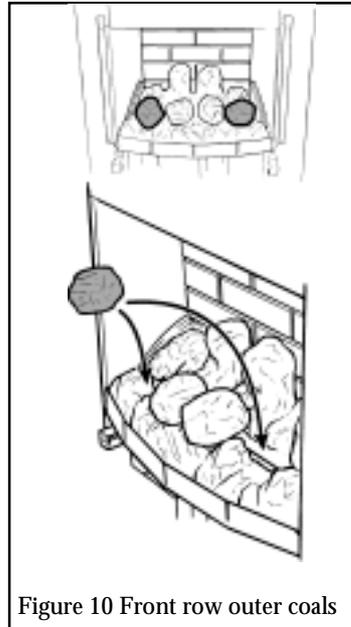

Figure 10 Front row outer coals
**5.2** Place two of the remaining coals in the two outer valleys of the front coal (One each side of the large coals) (See figure 10). Place the left side coal so that you will be able to see the pilot flame below the coal.